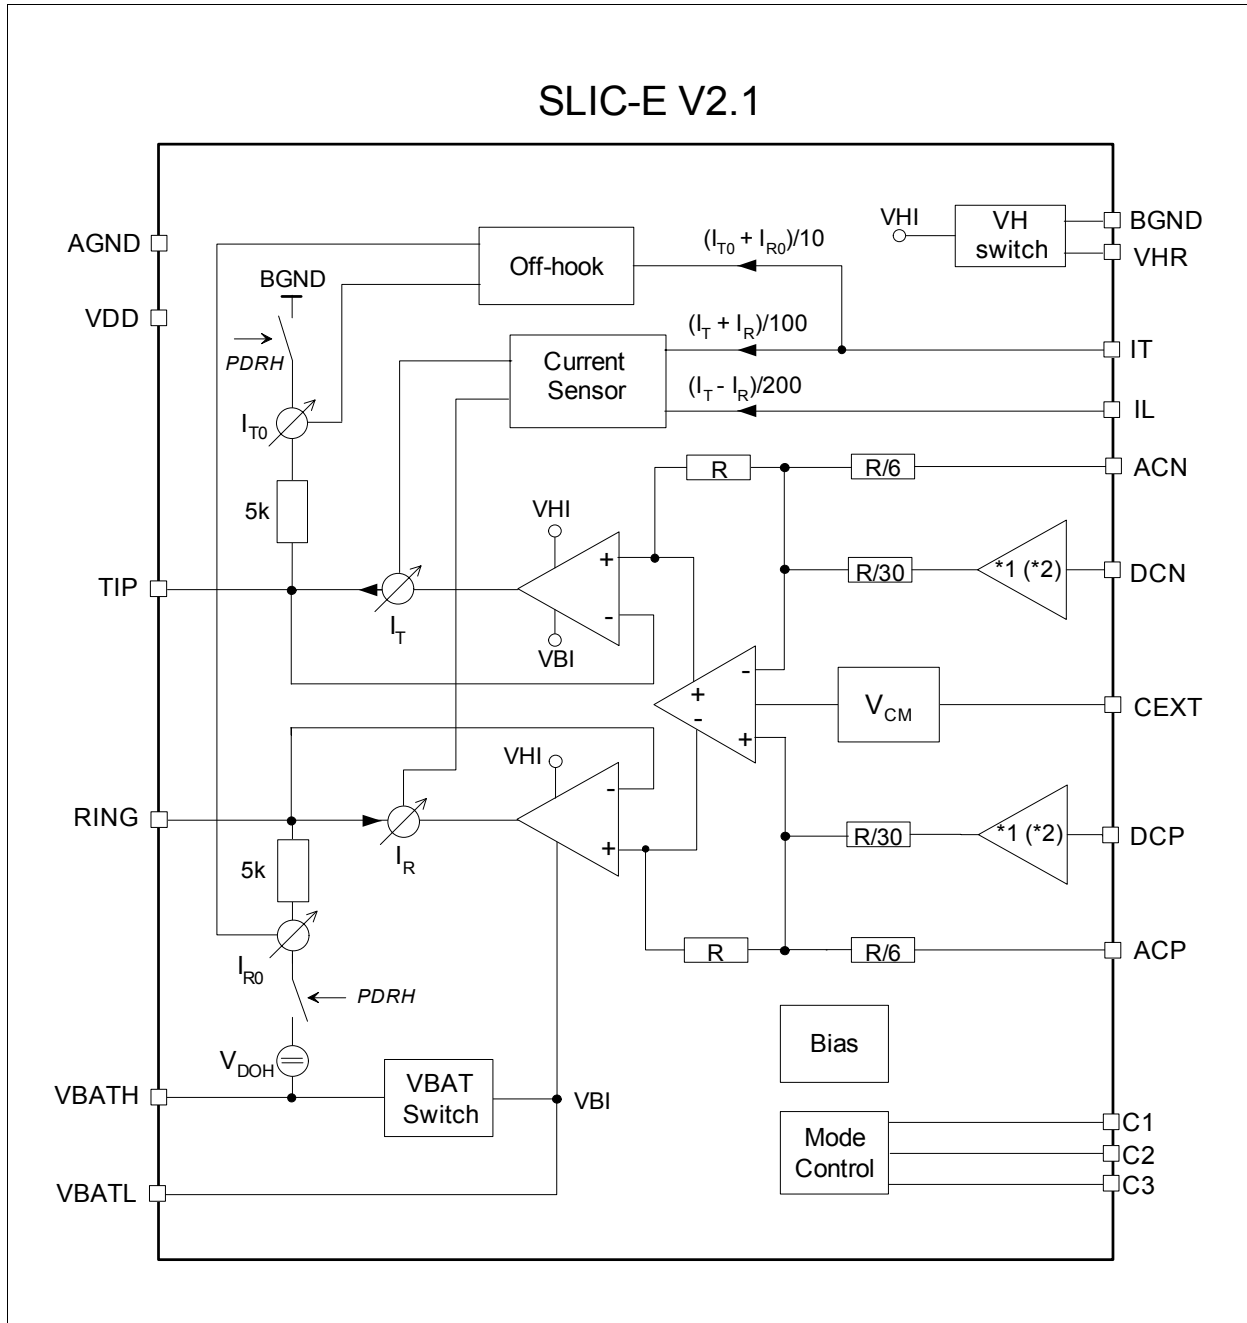

Figure 6 Block Diagram
A functional block diagram is shown in Figure 6.
Power consumption is reduced to a minimum by switching completely off all voice transmission functions. To allow off-hook detection, PDRH provides a connection of 5 k Ω each from TIP to BGND and RING to VBATH, respectively, while the output buffers show high impedance (see Figure 6). The current through these resistors is sensed, scaled by 1/5 and transferred to the IT pin for off-hook supervision.
3) Due to the changed battery switch concept (see Figure 6), the VBATL series diode must not be shared between different channels; one diode per channel is mandatory (also for applications with TSLIC).